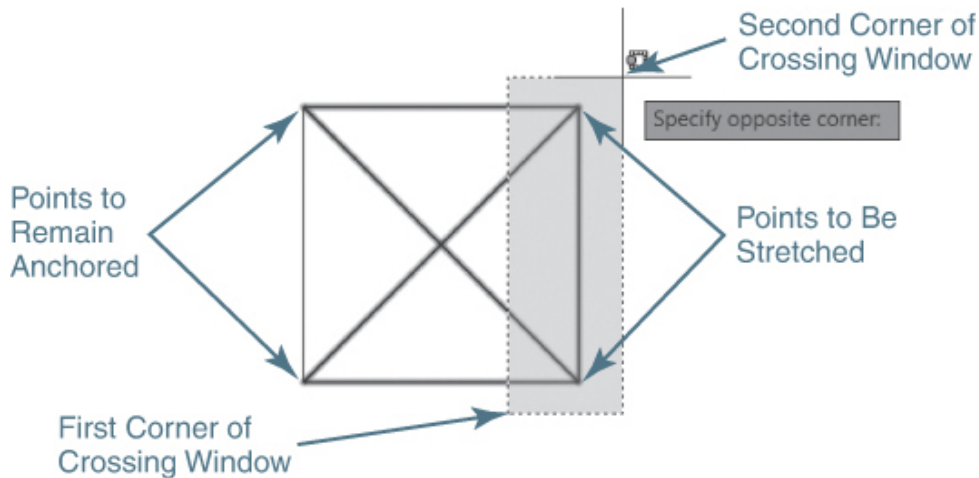

Figure 7-42
AutoCAD also prompts you to *Select objects:*. You *must* select the object(s) you want to stretch using either the **Crossing** or **Crossing Polygon** selection option, as shown in Figure 7-42.
- 3 Draw a 2" × 2" square with a cross similar to the one shown in Figure 7-42.
- 4 Start the **STRETCH** command, and select the line endpoints on the right side of the square using the **Crossing** selection method shown in Figure 7-42 so that AutoCAD prompts *Specify base point or ↓*.
- 8 Start the **STRETCH** command, and select the line endpoints on the right side of the square using the **Crossing** selection method shown in Figure 7-42 so that AutoCAD prompts *Specify base point or ↓*.